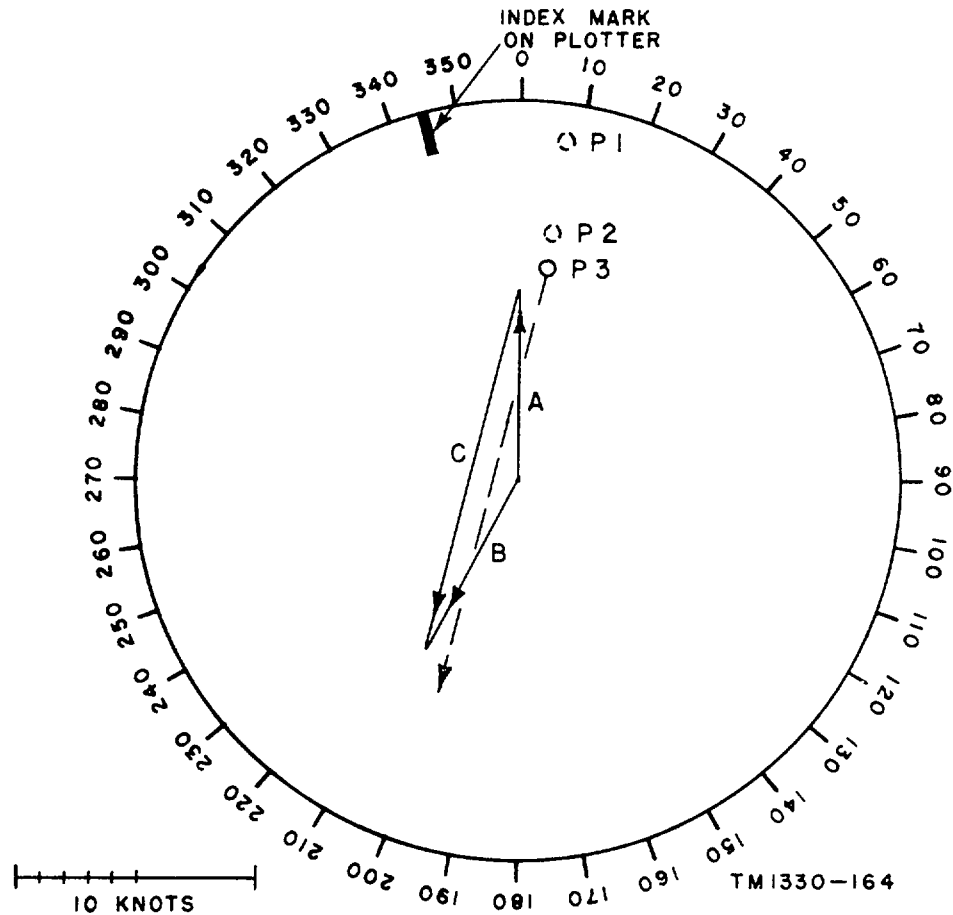

Figure 71. Radar plotting 4.
7. Assume that you choose to go to starboard 15° . Loosen the knurled thumbscrew at the side of the plotter and rotate the plotter 15° , in the *opposite direction, to port*. At the same time, change course 15° to starboard. The plotted points P_1 , P_2 , and P_3 will now appear as shown in figure 71.